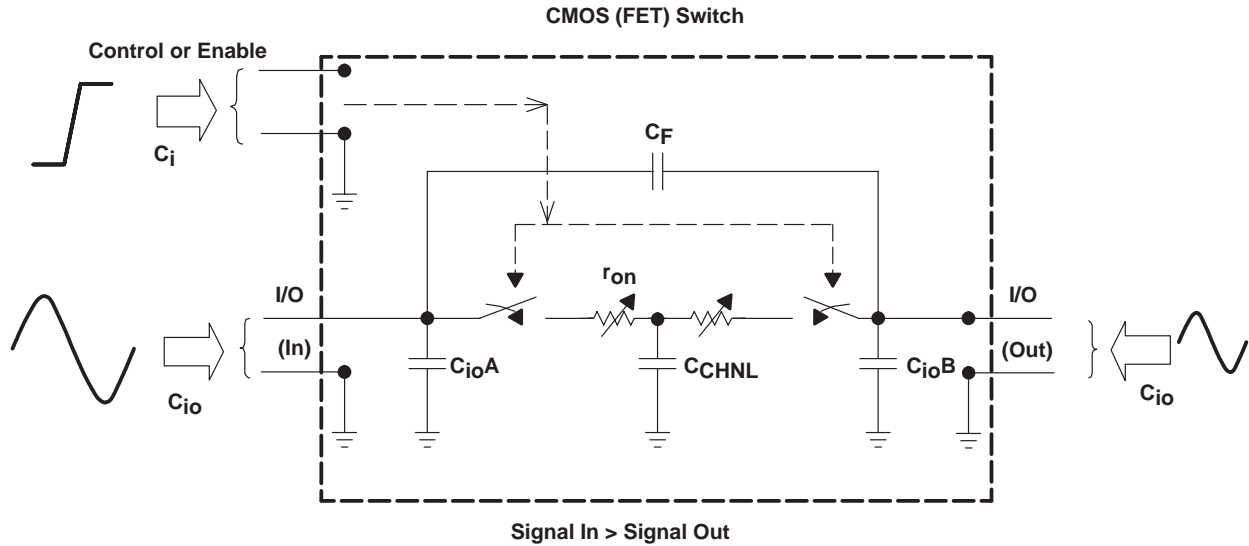

Figure 2. Simplified CMOS (FET) Switch
Like mechanical switches, solid-state switches are not ideal either. In fact, losses associated with solid-state switches can be significant. Why use a switch like this if it is so far from ideal? The answer is convenience. Solid-state switches are small, fast, easy to use, easy to control, and consume relatively little power compared to traditional electrically controlled switches, such as relays. The switches referred to in this application report are complementary metal-oxide semiconductor (CMOS) field-effect transistor (FET) switches. As mentioned previously, they are not ideal, so we need a way to examine and compare the performance characteristics of the different CMOS families. Figure 2 shows a simplified-circuit model of a CMOS switch.
The output signal (right side, Figure 2) is altered due to parasitic effects of the switch. Results may include decreased amplitude, signal distortion, phase shift, the introduction of noise, and frequency attenuation.
- Sine-wave distortion or total harmonic distortion. These are measurements of the linearity of the device. Nonlinearity can be introduced a number of ways (design, device physics, etc.) but, typically, the largest contributor is r_{on} . As shown in Figures 2 and 4, r_{on} varies with $V_{I/O}$ for all types of CMOS switches. Having a low r_{on} is important, but a flat r_{on} over the signal range is almost equally important. N-channel switches, such as CBT, exhibit very flat r_{on} characteristics for signal ranges of $0 < V_{I/O} < (V_{CC} - 2 V)$, but r_{on} increases very rapidly as $V_{I/O}$ approaches V_{CC} and V_{GS} decreases. Parallel n-/p-channel switches offer good r_{on} flatness for signal ranges of $0 < V_{I/O} < V_{CC}$, with the best flatness characteristic at the highest recommended switch V_{CC} .
- Charge Injection (Q). TI specifies enable-to-output crosstalk and some competitors use this parameter. As with enable-to-output crosstalk, changing the state on the control pin causes a charge to be coupled to the channel of the transistor introducing signal noise. It is presented in this report for a relative comparison with the competition.